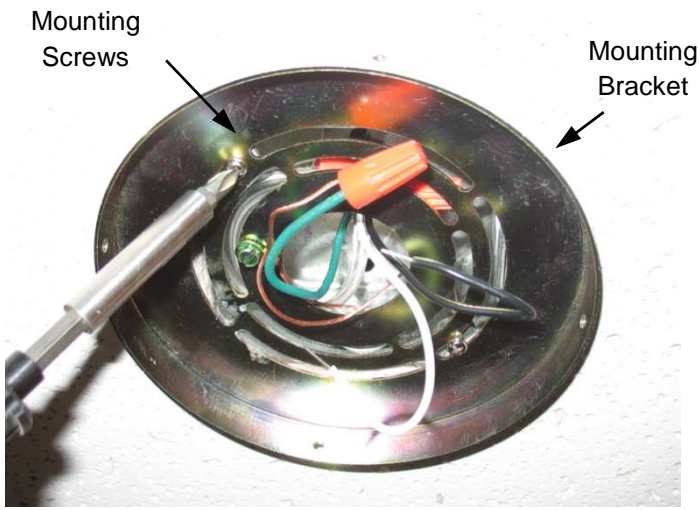

Figure 1
Step 3: Install the Mounting Bracket to the ceiling J-Box with the 2 included Mounting Screws. Figure 1